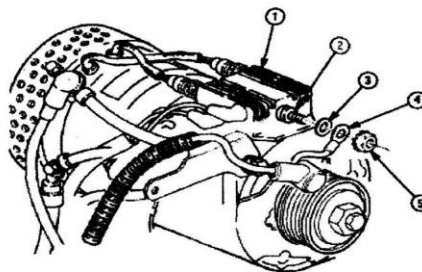

Figure 58
(15) Remove nut (5) from yellow low output terminal (2) on regulator (1) as shown in **Figure 58**. Retain all parts.
(16). Secure cable lead 68A (4) to yellow low output terminal (2) on regulator (1) with nut (5) and washer (3). Tighten nut (5) to 50 lb-in (7 Nm). As shown in **Figure 58**.